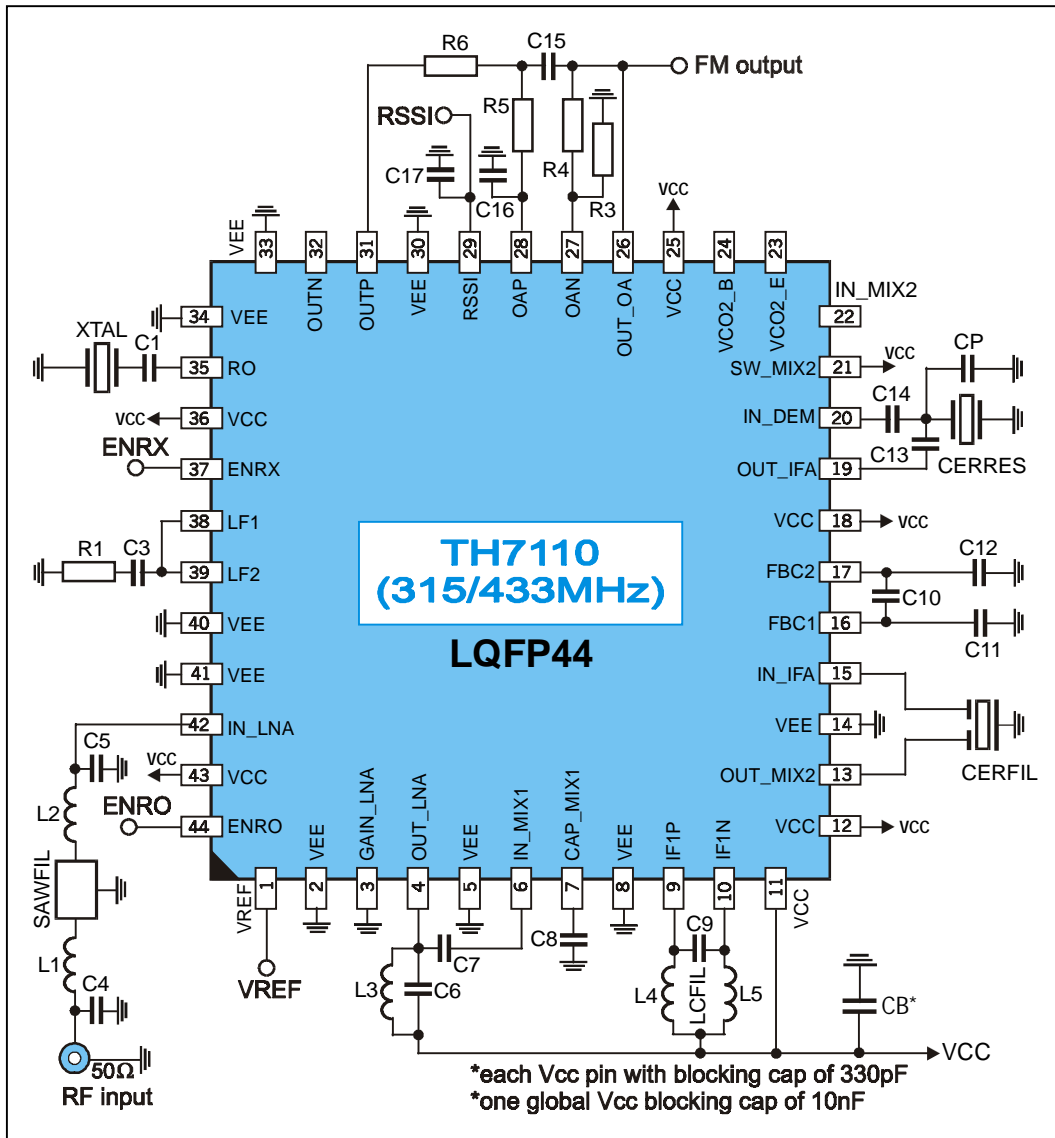

Fig. 4: Test circuit for FM reception
**FM test circuit component list to Fig. 4**